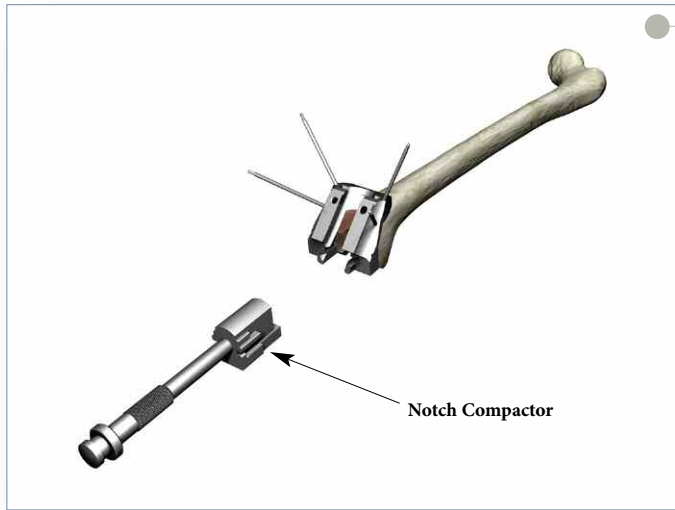

Figure 40
- ▶ Assemble the appropriately sized Notch Compactor to the punch handle (**Figure 40**).